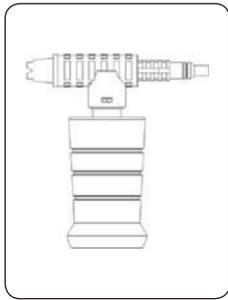

FIGURE 16
4. Connect the container nozzle to the trigger gun + extension wand (Figure 16 and 17).